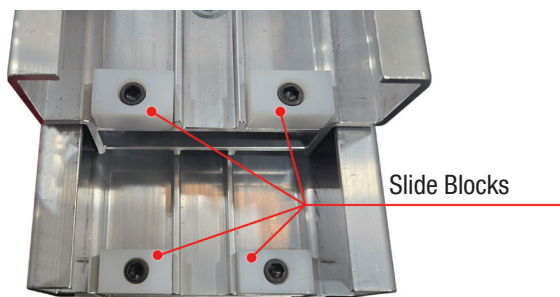

Figure 4-19: Slide Blocks
27. Slide the carriage section up to expose the bottom of the front mast assembly. Using 3/8" hex wrench and 9/16" wrench, re-install the two slide blocks (removed in step 10, see Figure 4-19) to the bottom of the front mast assembly. Do not overtighten the bolts and nuts as this may deform the slide block and cause unnecessary friction. Torque to 10 ft-lbs.